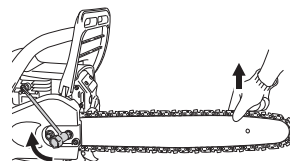

Fig. 7
8. Raise the bar end and securely tighten the guide bar clamp nuts with the combi box spanner. (Fig. 7)